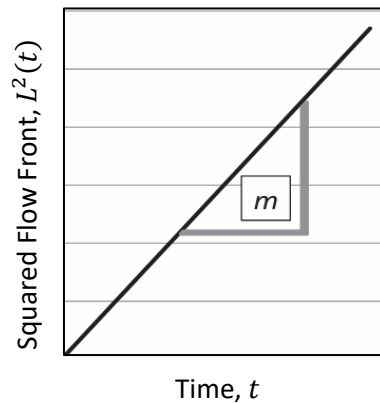

Figure 4 Schematic graph of typical constant pressure flow front position squared versus time results.
- Plot the evolution of the square of the flow front position $x^2(t)$ and find its slope (like figure 4).